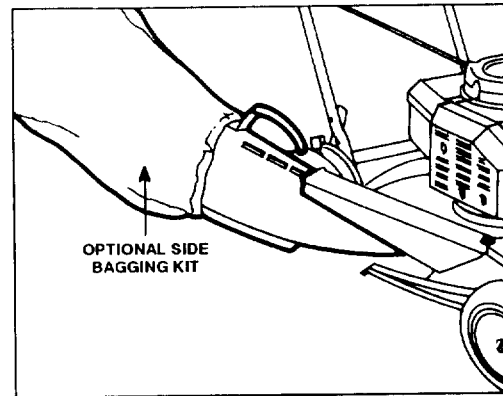

Figure 25
**1. Side Discharge Bagging Kit, Model No. 47-6510**—Side bag kit (Fig. 25) lets you bag lush grass in spring to help keep your lawn free of clippings. In the fall, bag leaves while you mow to eliminate the hand-blistering raking job.